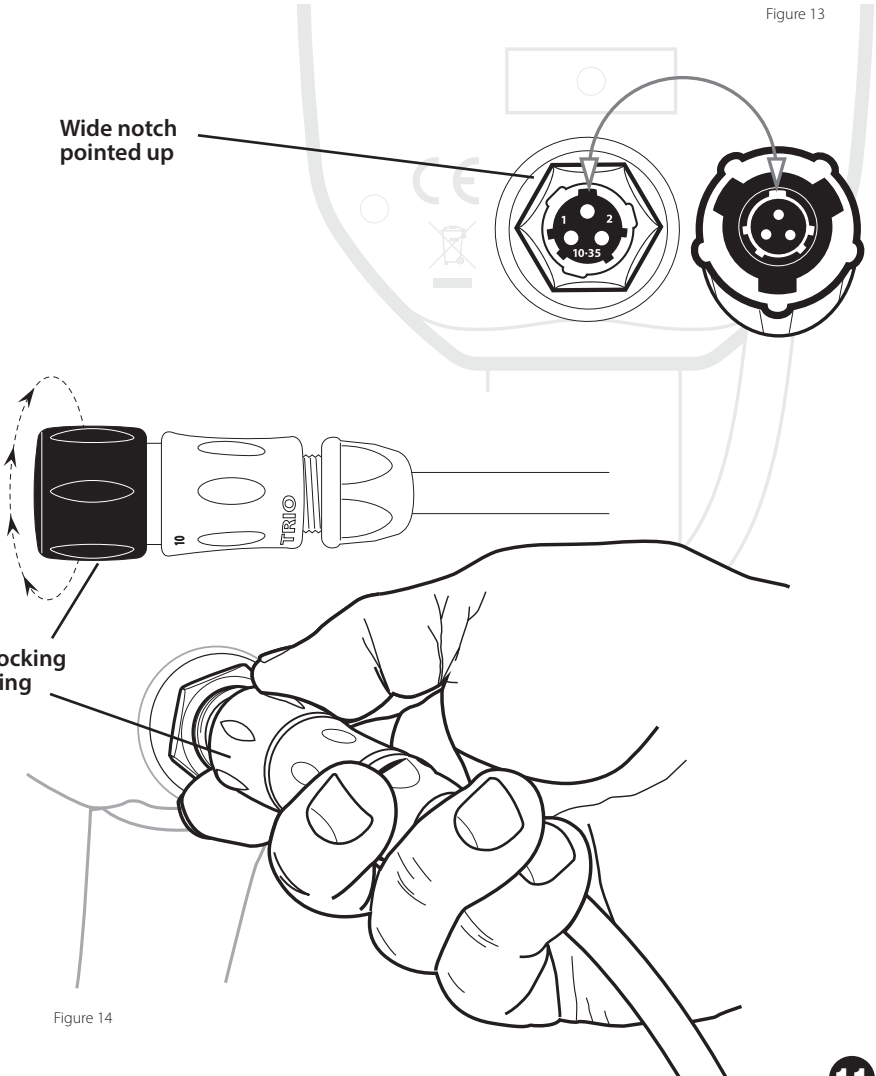

Figure 14
3. Turn the **Locking Ring** clockwise until it locks (figure 14).